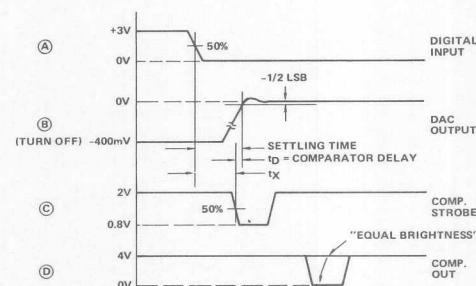

FIGURE 3B.
As shown in Figure 3B, settling time equals t_X plus the comparator delay ($t_D = 15\text{ns}$). To measure t_X ,
- Adjust the V_{LSB} supply for 50 percent triggering at COMP. OUT. This is indicated by traces of equal brightness on the oscilloscope display as shown in Figure 3B. Note DVM reading.
- Switch the LSB to Pulse (P).
- Measure t_X from scope as shown in Figure 3B. Settling time equals $t_X + t_D$, i.e. $t_X + 15\text{ns}$.